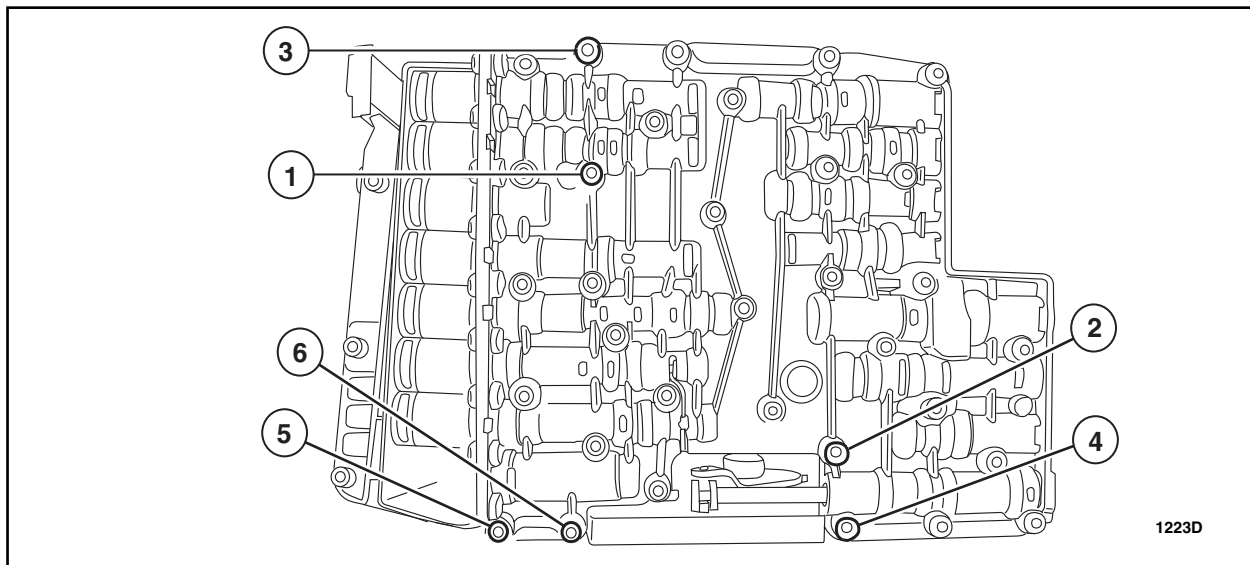

FIGURE 5
8. Tighten the long bolts to 53 lb.in (6 Nm) in the sequence shown. See Figure 5.